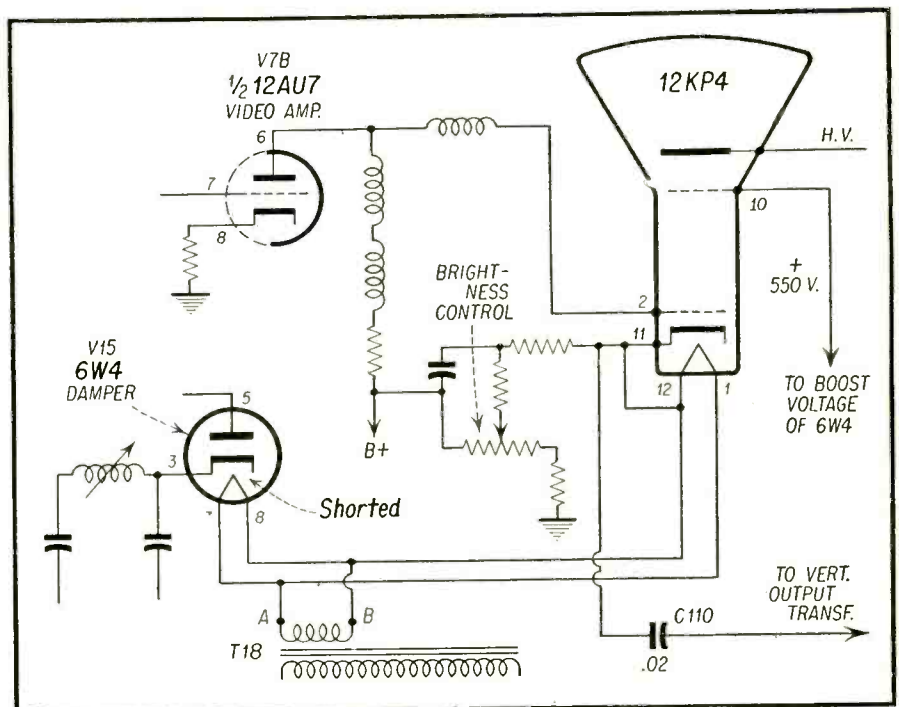

Fig. 1—Partial schematic of General Electric 830T.
When a condition such as this arises, there are certain tube voltage conditions which exist, that is, the voltages on the cathode, control grid, or screen grid (first anode) are such that the brightness is cut off. The diagram was now consulted. The control grid of the tube (a 12KP4) is directly fed from the plate of the video amplifier V7B. Therefore, a defective component that lowers this plate voltage (makes it more negative) could cut off the picture tube brightness. With most picture tubes, a negative grid to cathode voltage (screen and second anode voltage being normal) of 45 to 55 volts is enough to cut off the picture tube brightness. Defective components in the blanking circuits also cause many brightness problems. The blanking voltages are usually fed to either the screen, control grid, or cathode of the picture tube. Thus a shorted condenser, such as C110—.02  $\mu$ f (see Fig. 1) would place a high positive voltage on the cathode of the 12KP4 and cut off the brightness.
Fig. 1—Distorted effect produced by using a crystal probe in circuits which have already been detected. A direct probe should be used for this type of measurement.
A. The difficulty is due to improper test conditions. A crystal probe should not be used with the scope after the picture detector, because use of the probe in these circuits constitutes a second detection of the signal, which distorts the pulse display as seen in Fig. 1. Use a direct type of connection to the scope when testing in video-amplifier circuits.